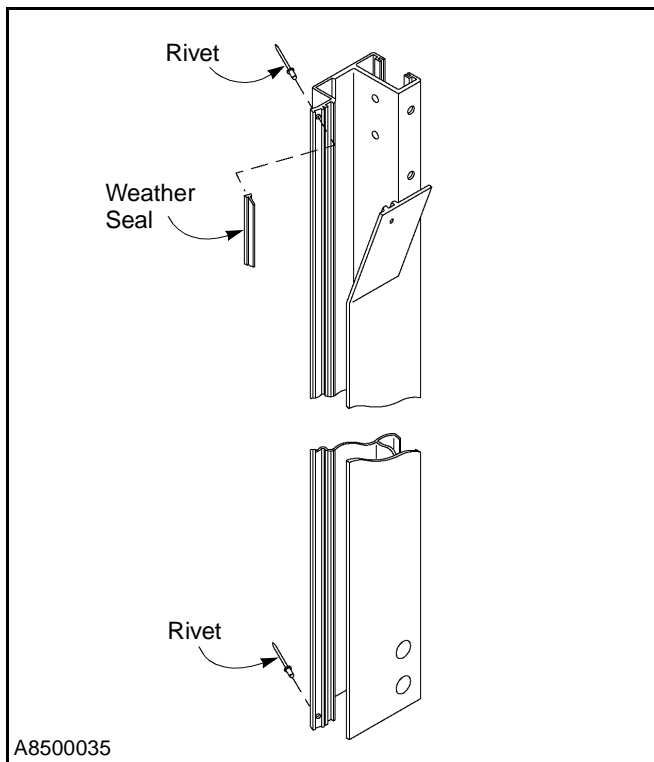

Figure 85
1. Drill out rivets in side columns and remove old seal. (See Figure 85.)